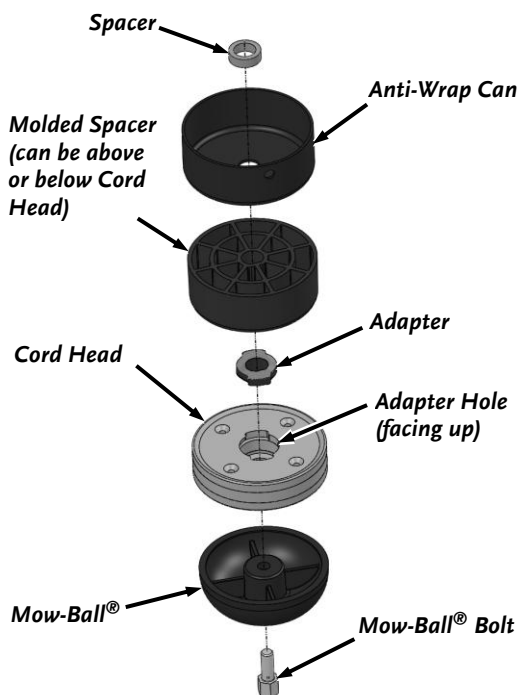

Figure 33
5. Slide the Cord Head, Adapter and Molded Spacer off the Shaft (**Figure 33**).